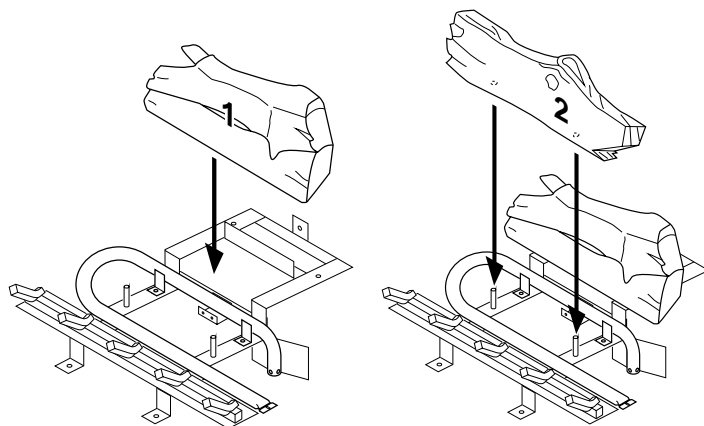

Figure 51 - Installing Log No. 1      Figure 52 - Installing Log No. 2
2. Place log #1 (back log) on top of grate. Make sure the notches in the bottom of the log fit over the grate (see Figure 51).